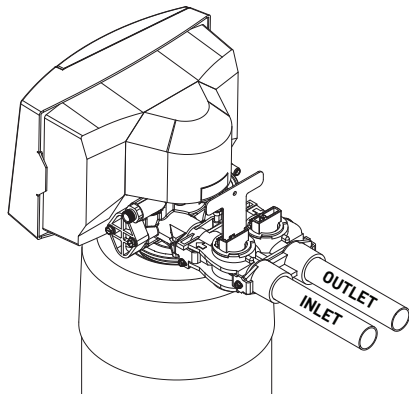

Figure 3
- Connect the raw water supply to the inlet pipe connection of the yoke. When looking at the front of the system, the inlet is the pipe connection on the right side of the valve (see figure 3). The arrow molded into valve indicates the direction of flow.
- Connect the treated water pipe to the outlet pipe connection on the yoke. When looking at the front of the system, the outlet is the pipe connection on the left side of the valve (see figure 3). The arrow molded into the valve indicates the direction of flow.